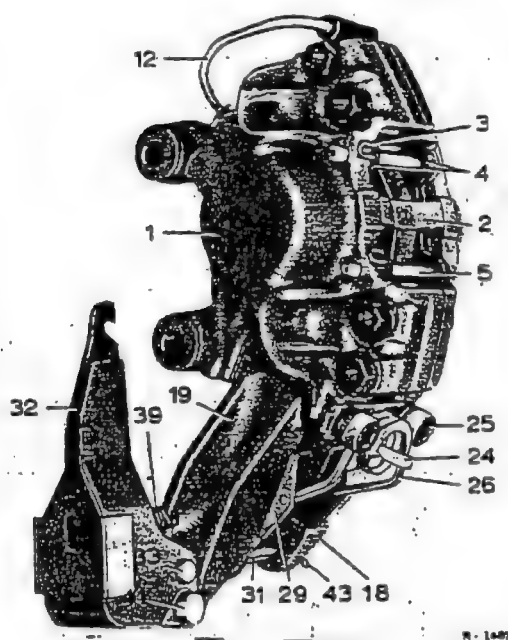

Fig. 42-12/23
2. Remove the friction pads. Take out the locking clips (3), push out the lock pin (5), and remove the crossleaf spring (2), the screening plate in front of the outer piston and the friction pads (Fig. 42-12/23).